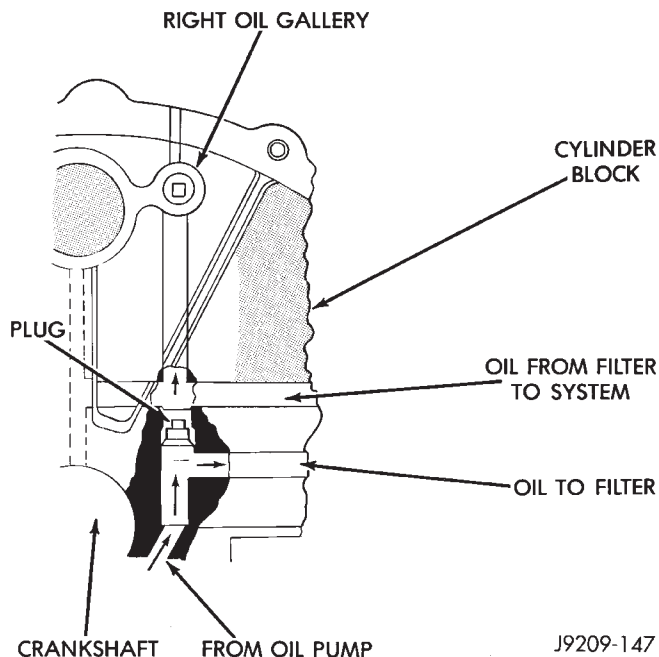

Fig. 72 Oil Line Plug
The oil line plug is located in the vertical passage at the rear of the block between the oil-to-filter and oil-from-filter passages (Fig. 72). Improper installation or plug missing could cause erratic, low, or no oil pressure.
(1) Remove oil pressure sending unit from back of block.
(2) Insert a 3.175 mm (1/8 in.) finish wire, or equivalent, into passage.
(3) Plug should be 190.0 to 195.2 mm (7-1/2 to 7-11/16 in.) from machined surface of block (Fig. 72). If plug is too high, use a suitable flat dowel to position properly.